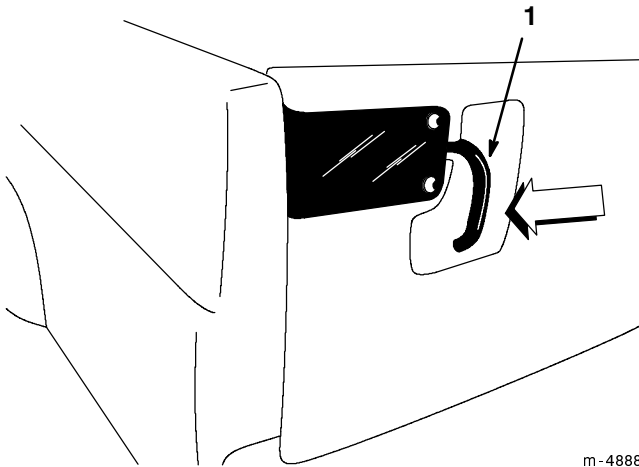

Figure 10
1. To open the tailgate latches, push the latches toward the outside of the vehicle (Fig. 10).